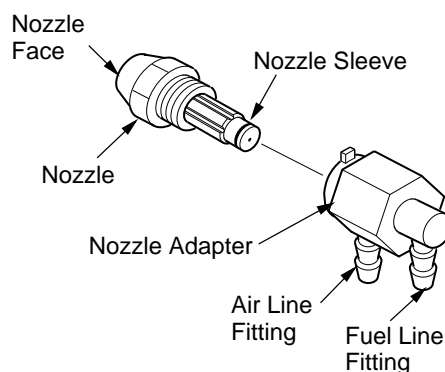

Figure 19 - Nozzle and Nozzle Adapter
6. Carefully remove nozzle from the nozzle adapter using 5/8" socket wrench (see Figure 19).
9. Replace nozzle into nozzle adapter until nozzle seats. Tighten 1/3 turn more using 5/8" socket wrench 4.5 to 5.1 N-m (40 to 45 in-lbs). See Figure 19.